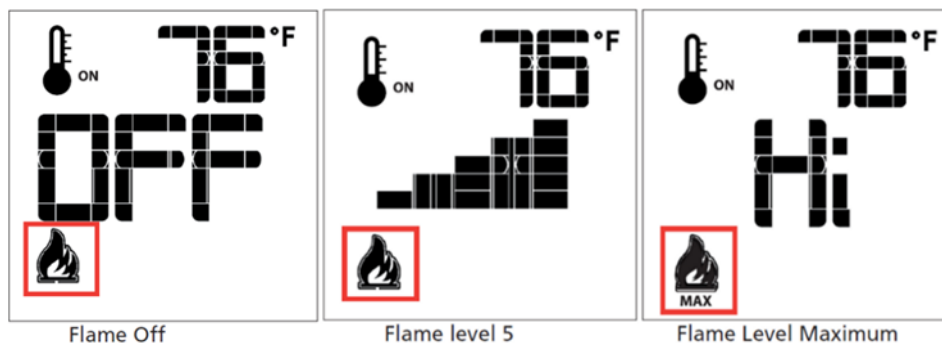

FIGURE 10
The system has six (6) flame levels. See (**Figure 10**) for an example. With the system on, and the flame level at the maximum in the appliance, pressing the Down Arrow Key once will reduce the flame height by one step until the flame is turned off. The Up-Arrow Key will increase the flame height each time it is pressed. If the Up Arrow Key is pressed while the system is on, but the flame is off, the flame will come on in the high position (**Figure 10**). A single “beep” will confirm reception of the command.